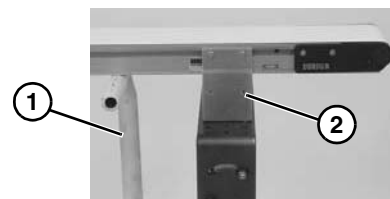

Figure 33
1. Place temporary support stands (**Figure 33, item 1**) at both ends of the conveyor.
2. Remove mounting brackets (**Figure 33, item 2**) from one side of conveyor. (Reverse steps 3 & 4 of “Mounting Brackets” section beginning on page 12.).
1. Ensure temporary support stands (**Figure 33, item 1**) are placed at both ends of the conveyor.